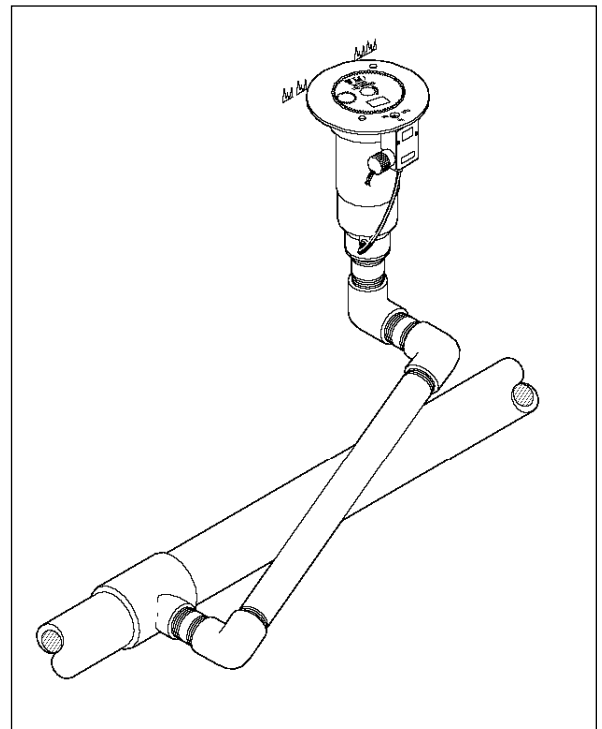

Figure 1: Triple Swing Joints
1. Construct or provide triple swing joints for each sprinkler as shown in **Figure 1**. Use PVC or ABS pipe nipple for sprinkler connection.